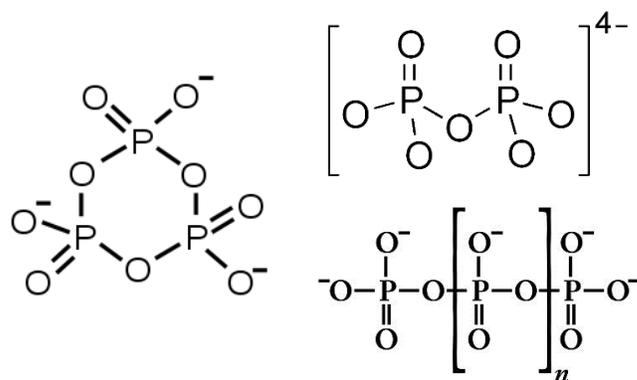

Figure 2: Examples of metaphosphate (left), pyrophosphate (top right), and polyphosphate structure (bottom right)
Condensed phosphates are multiple orthophosphate molecules "condensed" together and sharing a covalent bond between adjoining phosphorus (P) and oxygen (O) atoms. This group includes metaphosphate, pyrophosphate, and polyphosphate—which are often used for corrosion control in drinking water distribution systems. Examples of their respective structures are shown in Figure 2.